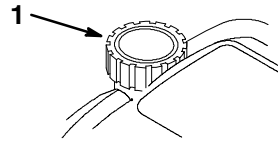

Figure 33
7. Fill the fuel tank (Fig. 33) with fresh, clean gasoline.